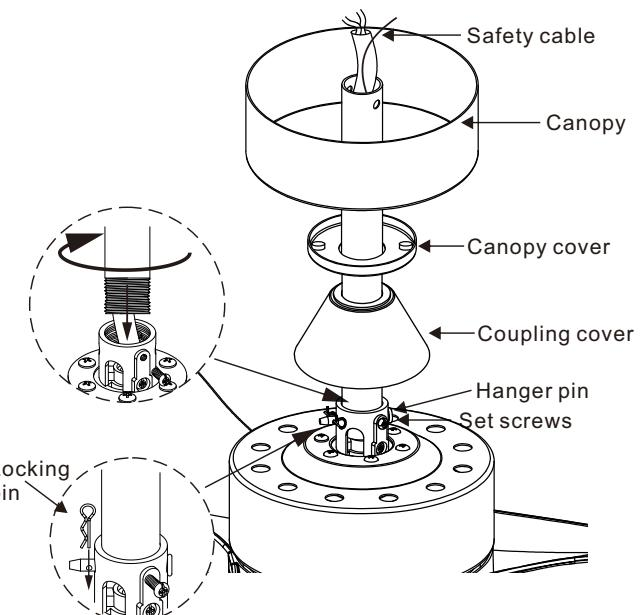

Figure 12
Step 5. Route the wires and safety cable coupler exiting from the top of the fan motor through the coupling cover, canopy cover and canopy, then through the ball/downrod. (Fig. 12)
Step 6. Thread downrod into the motor coupling until the holes on the downrod and coupling are lined up (Fig.12) Carefully insert the hanger pin through the holes in the collar and downrod. Be careful not to jam the pin against the wiring inside the downrod. Insert the locking pin through the hole near the end of the hanger pin until it snaps into its locked position, as shown in the circle inset of (Fig. 12)
Step 7. Tighten two set screws against the downrod on the coupling firmly. (Fig. 12)